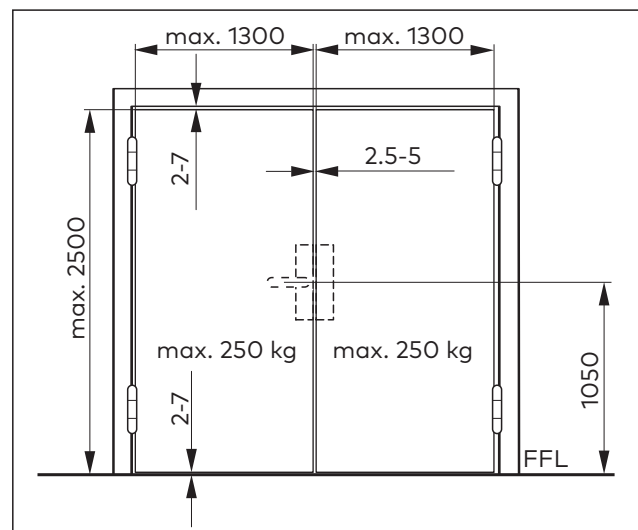

Fig. 12 Requirements for the door
- The door corresponds to the specifications in Fig. 12 and is deformed by a maximum of 5 mm.